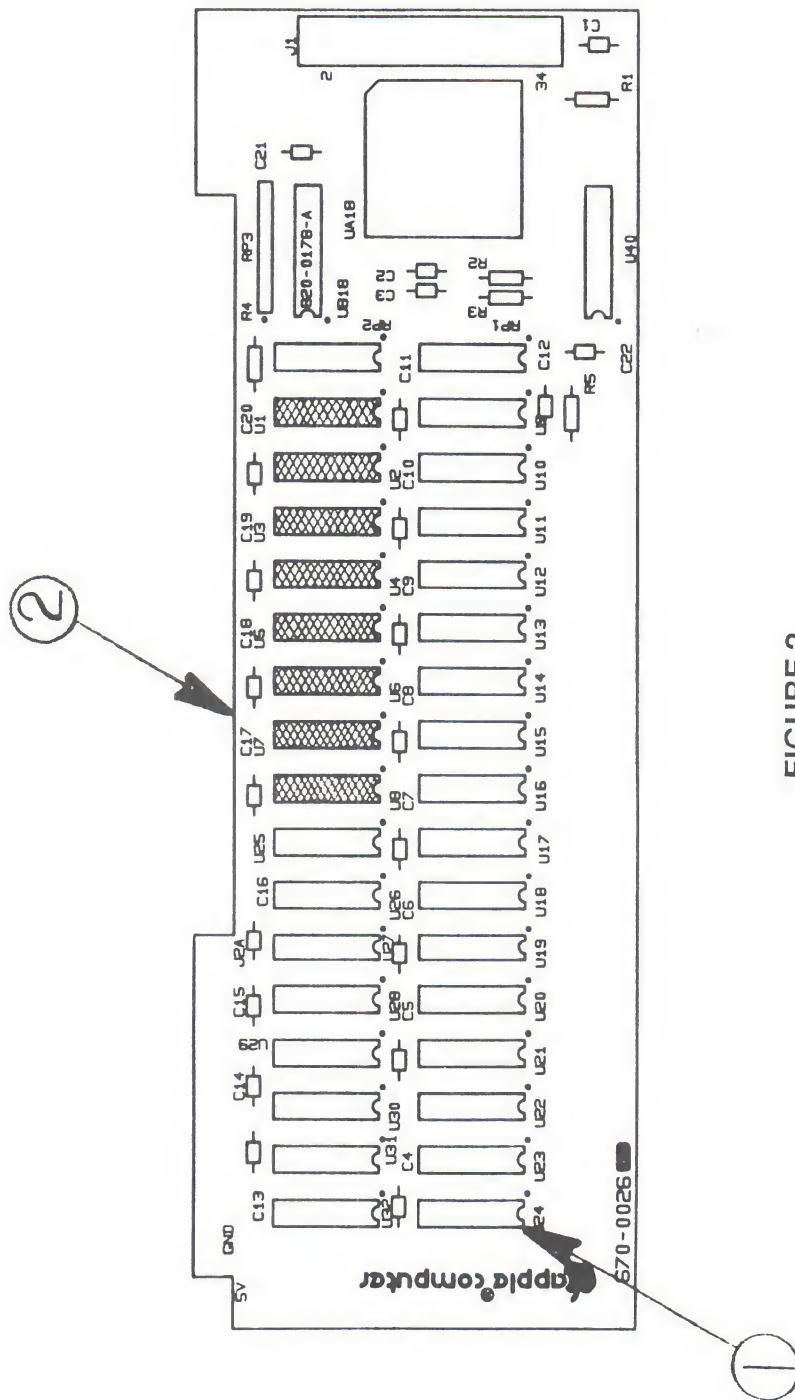

FIGURE 2
## □ APPLE IIc – MEMORY EXPANSION CARD (Figure 2)
**Note:** The eight ICs that are shadowed in Figure 2 are soldered to the Memory Expansion Card. The 24 sockets on the card can be filled with 256K RAM ICs for memory expansion.